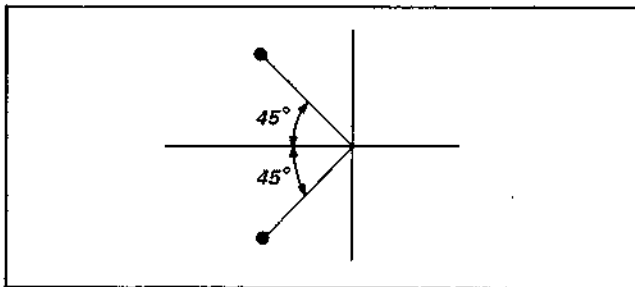

Fig. 4-4-1. Vectorscope adjustment
- (1) Supply the VTR with the colour bar signal and set up the E-E mode.
- (2) Connect the vectorscope to pin 8 of IC2.
- (3) Adjust the PHASE knob of the vectorscope for matching the burst signal phase. (See Fig. 4-4-1.)